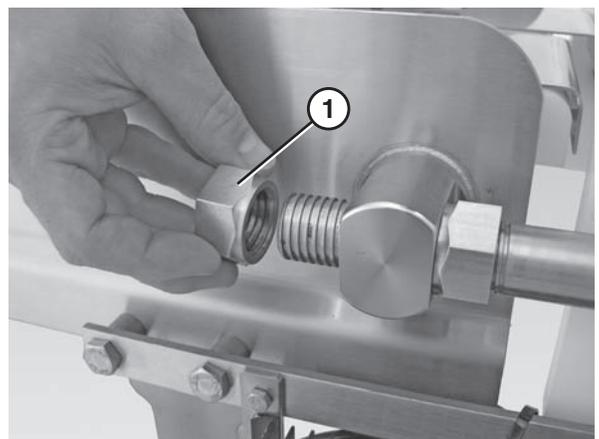

Figure 88
3. Remove the back nuts (**Figure 88, item 1**) on both discharge nose bar shafts.